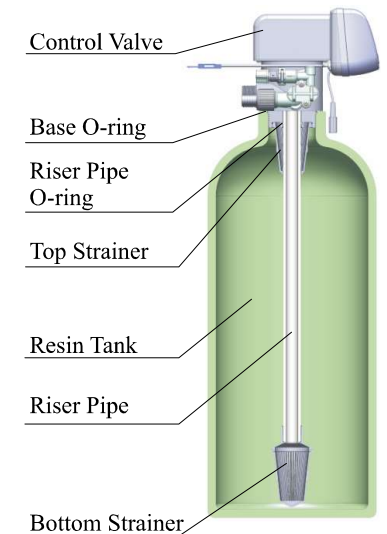

Figure1-1
- ①The filter or softener should be located close to the drain.
- ②Ensure the unit is installed in enough space for operating and maintenance.
- ③Brine tank needs to be close to softener.
- ④The unit should be kept away from the heater, and not be exposed outdoor. Sunshine or rain will cause the system damage.
- ⑤Please avoid to install the system in one acid/alkaline, Magnetic or strong vibration circumstance, because above factors will cause the system disorder.
- ⑥Do not install the filter or softener, drain pipeline in circumstance which temperature may drop below 5℃, or above 50℃.
- ⑦The system should be installed in a place where there will be the minimum loss in case of water leakage.
C. Pipeline installation (F116Q3 as example)**①Install control valve**
a. As the Figure 1-1 shows, select the riser pipe with 26.7mm OD, glue the riser pipe to the bottom strainer and put it into the mineral tank, cut off the exceeding tube out of tank top opening. Plug the riser tube in case of mineral entering.